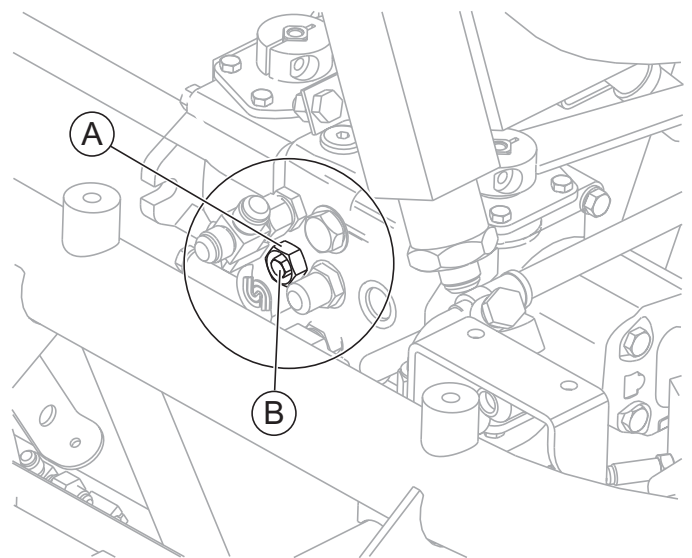

Figure 28. Steering Pressure Adjustment
3. Loosen 1-1/16" jam nut on charge relief valve (Item A, Figure 28).
4. Use a 1/2" socket to adjust the small hex nut within the larger hex jam nut (Item B, Figure 28).